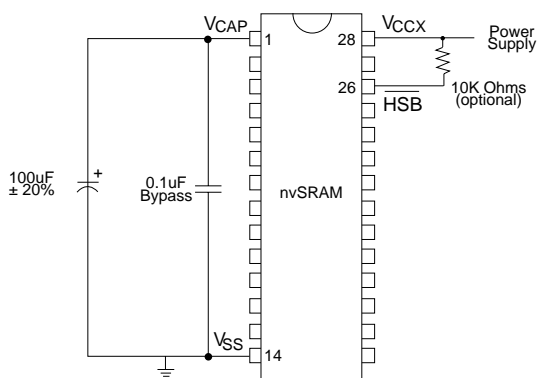

Figure 1
*Figure 1* shows the proper connection of capacitors for automatic store operation. The charge storage capacitor should have a capacity of at least 100 $\mu$ F ( $\pm 20\%$ ) at 6V. Each STK12C68-IM must have its own 100 $\mu$ F capacitor. Each STK12C68-IM *must* have a high quality, high frequency bypass capacitor of 0.1 $\mu$ F connected between  $V_{CAP}$  and  $V_{SS}$ , using leads and traces that are as short as possible.